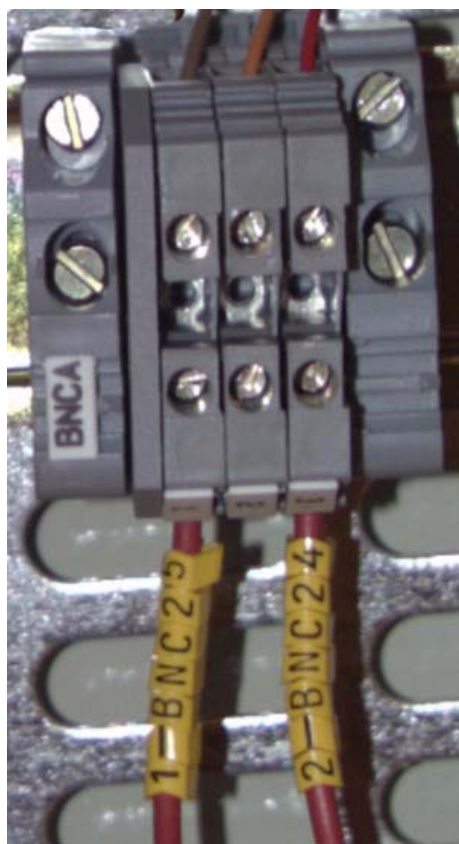

Figure 8-7 Model FCA190-A BNCA Terminal Strip
- 3.) At BNC A ensure wiring is connected as follows. Reference Figure 8-7 on page 53.